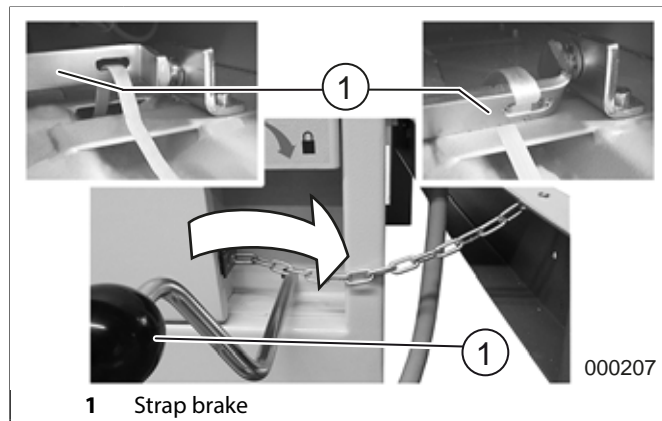

fig. 14 Strap brake
The strap brake (fig. 14) must be closed (move lever to right).
2. Open the strap brake (fig. 14/1).
4. Close the strap brake (fig. 14).
3. Open the strap brake (fig. 14).